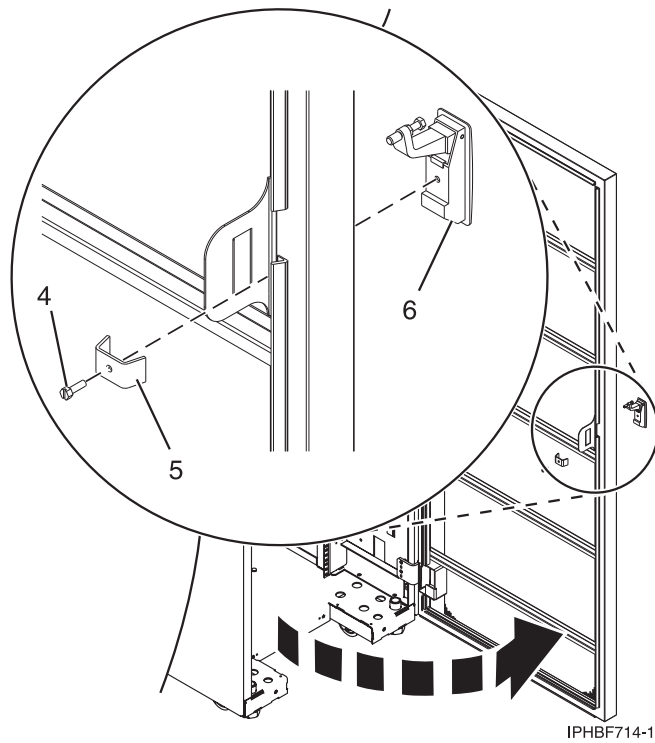

Figure 76. Removing the existing door latch
- b. On the inside of the door, remove the screw (4) in Figure 76, that secures the lock to the rack door.
- c. Remove the bracket (5).
- d. From the outside of the door, remove the door latch (6).
- a. Insert the keyed rack lock into the latch slot on the front of the door (6) in Figure 76.
- b. Secure the lock by attaching the lock bracket (5) with the screw (4), on the inside of the door.